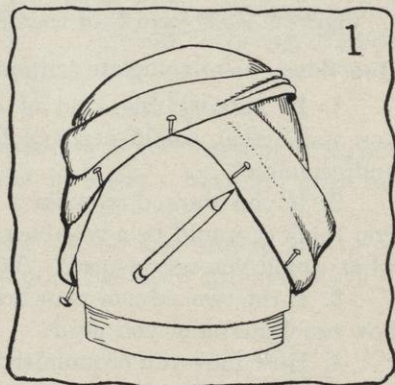

FIG. 1.
- b. Put a pin at the edge of the turban or beret and right into the block at front, back, sides, side fronts, and side backs to hold it in position on the block (see Figure 1).
- m. Read Sections 2 d (page 220) and draw a pencil line on the block just at the edge of the crown (see Figure 1); however, this time you are putting the penciled line around the headsize of a crown.
- a. Turn back one end of the ribbon $\frac{1}{2}$ inch, and pin it with a thumb tack to the block with the folded edge at direct back of block and the raw edge outside. The ribbon should be placed above the headsize line that you drew on the block, and the lower edge of the ribbon must be exactly on the headsize line (see point a in Figure 1).
- c. If you come to a place where the headsize line curves downward, make your ribbon fit around the curve by pinning one or more tiny tucks (three are frequently needed) in the ribbon at the upper edge of the ribbon and graduate them to nothing at the lower edge. Pin the tucks outside (see point *b* in Figure 1, page 222).
- d. If the headsize line curves upward at any place, make your ribbon fit around the curve by pinning one or more tiny tucks at the lower edge of the ribbon and graduate them to nothing at the upper edge. Pin the tucks outside (see point *c* in Figure 1, page 222).